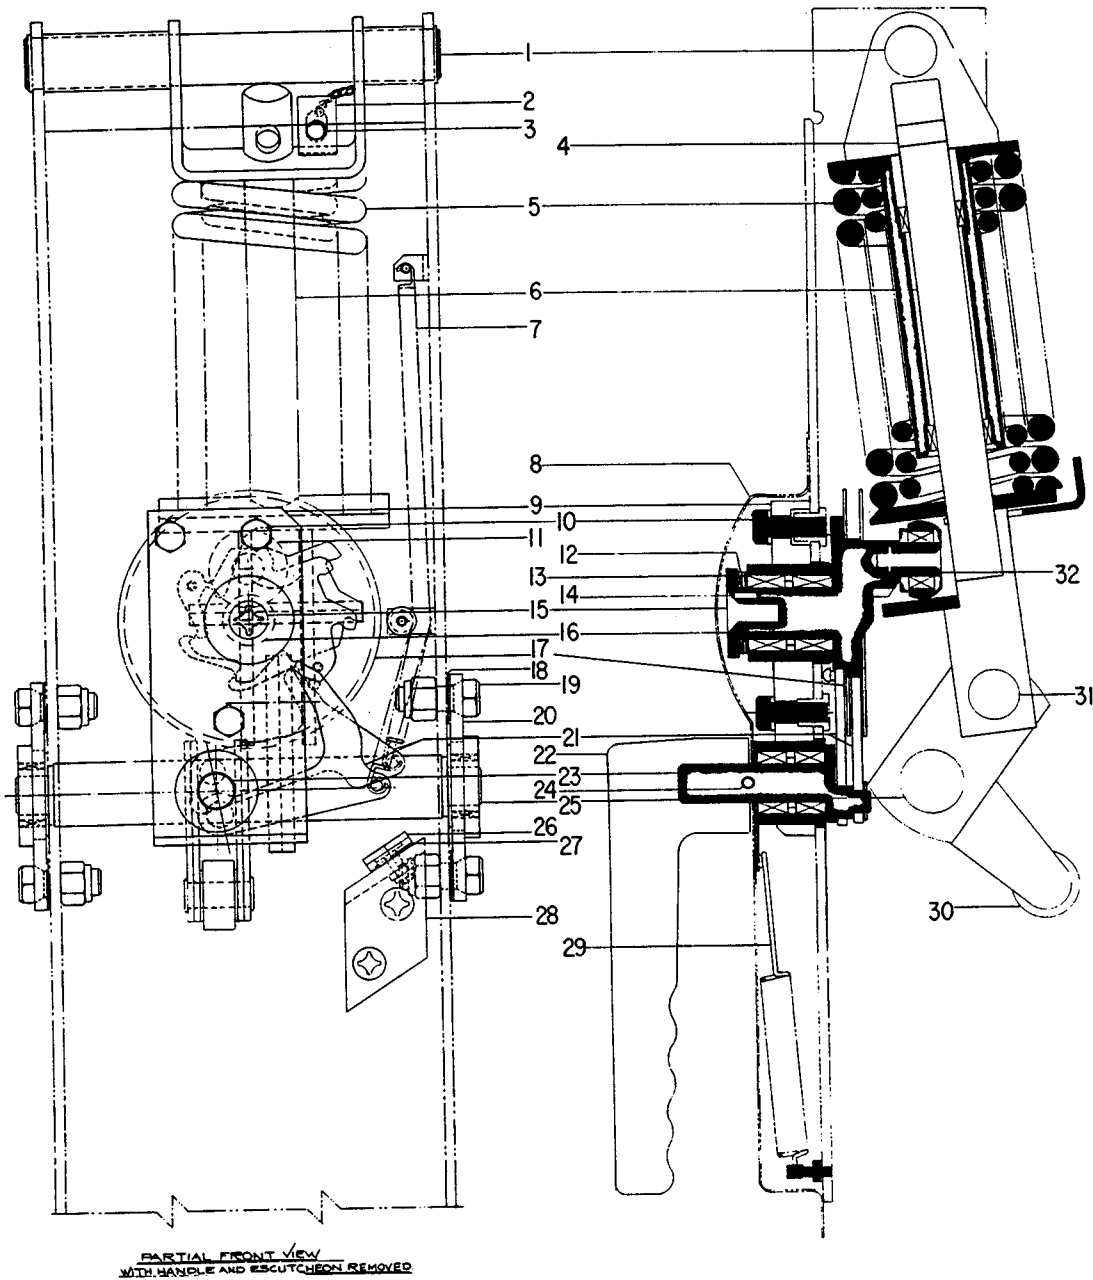

Fig. 15 (669D805) Stored-energy manual closing mechanism charged position AK-2
Stored-Energy Manual Mechanism (Fig. 15)
Closing the Breaker (Fig. 15)
Inserting the Safety Pin (Fig. 15)
Replacement (Fig. 15)
**Adjustments (Fig. 15)**